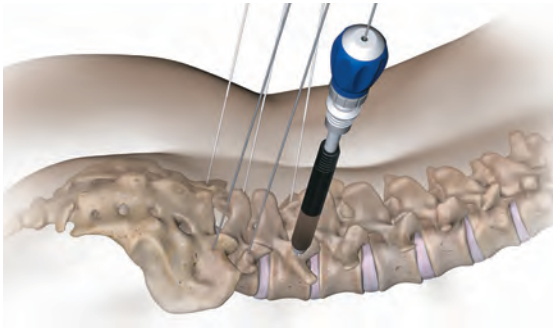

Figure 6
- Place the tap over the guidewire and guide the tap until it is docked against the bony anatomy (Figure 6).